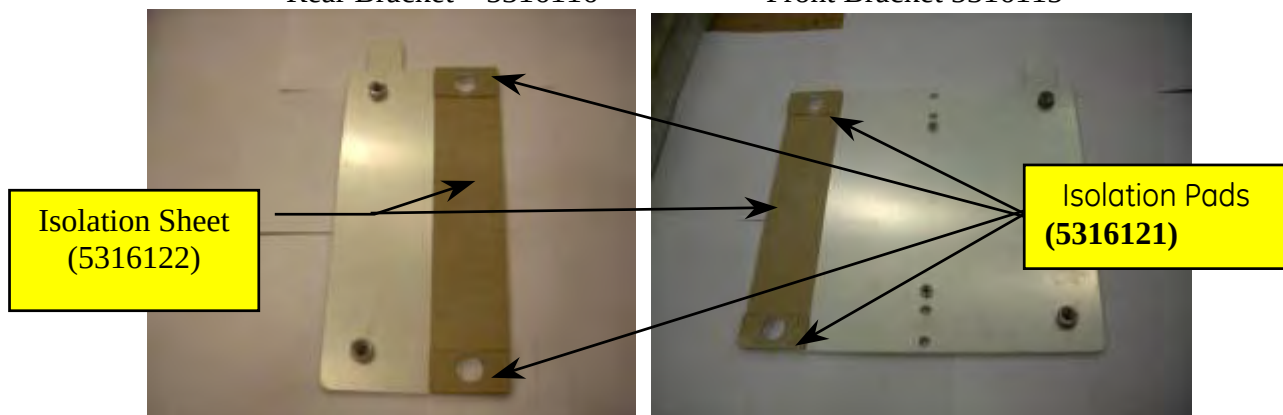

Figure 7
D. Peel the backing of the isolation sheet (5316122) and apply it onto the magnet side of the rear and front attachment brackets as shown. Peel the adhesive backing from the isolating pads (5316121) over each of the attachment hole locations. **(Fig 7)**